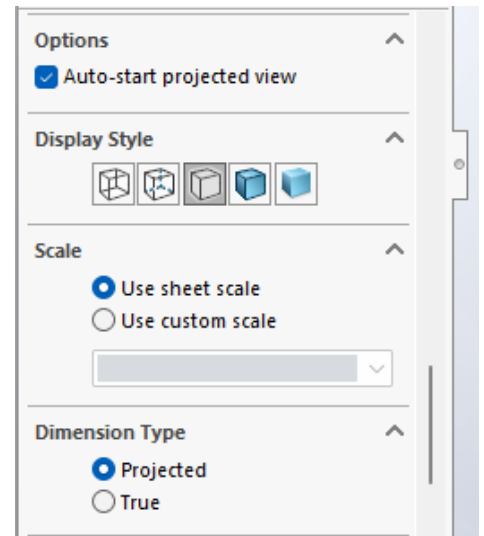

Fig. 4.5.
– **Options** (fig. 4.5) – Auto-launch of projected views. Selecting this option allows for the creation of linked projected views immediately after creating the first view.